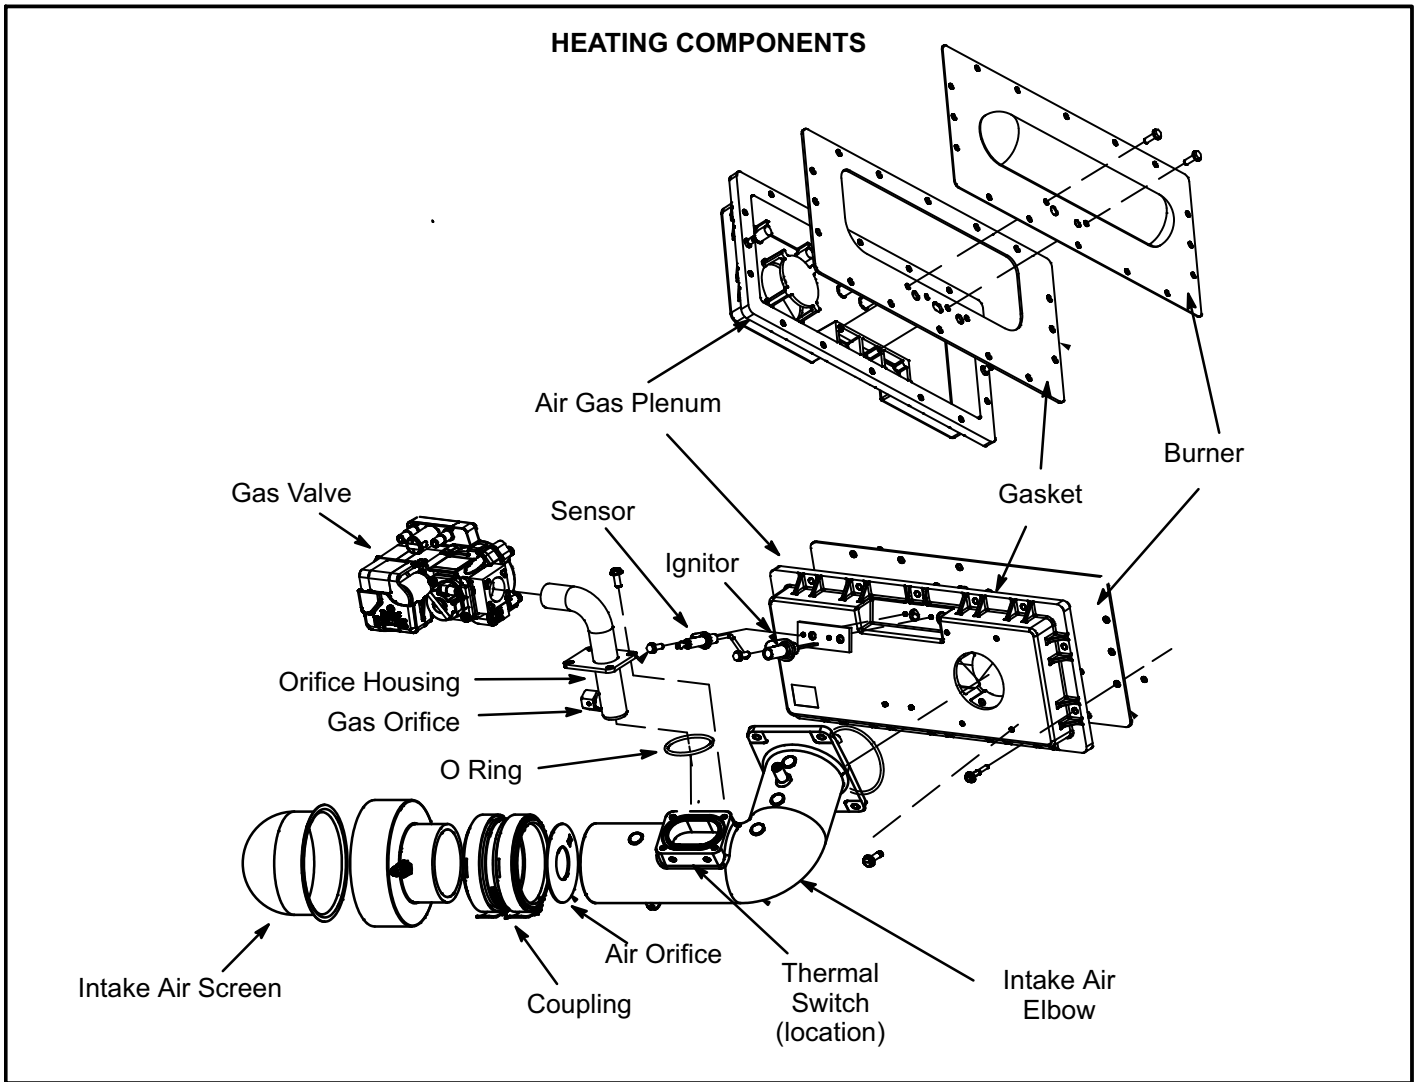

FIGURE 6
The hot surface ignition control system consisting of an integrated control (figure 3 with control terminal designations in tables 1, 2 and 3), sensor and ignitor (figure 6). The integrated control and ignitor work in combination to ensure furnace ignition and ignitor durability. The integrated control, controls all major furnace operations. The integrated control also features a RED LED for troubleshooting and two accessory terminals rated at (1) one amp. See table 4 for troubleshooting diagnostic codes. The nitride ignitor is made from a non-porous, high strength proprietary ceramic material that provides long life and trouble free maintenance.
5. Thermal Switch (Figure 6)
7. Gas Valve (Figure 6)
8. Flame Sensor (Figure 6)
Burners are factory set and require no adjustment. Always operate the unit with air gas plenum in place. The burner has one orifice located between the gas valve and the air intake assembly (Figure 6). To check or replace the orifice remove the intake air screen, coupling and intake air elbow. Using a 5/8" socket, go through the elbow and unscrew the gas orifice. The burner uses an orifice (see Table 7) that is precisely matched to the burner input. The burner can be removed for service. If burner has been removed, it is critical to replace all gaskets.
12. Ignitor (Figure 6)